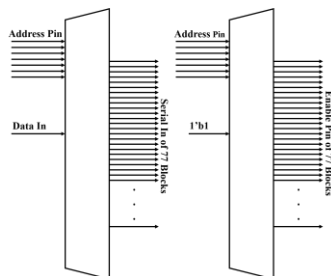

Fig. 5. Memory Controller Block
e. Memory Controller: This Memory Controller Block (Fig. 5) is very important to decide the direction of the bitstream while programming the FPGA. It actually contains two 1 to 128 DEMUX. The selector pin of these DEMUXs is the 7-bit address pin. One DEMUX is used for redirecting the bitstream and another one is for selecting where to write the bitstream. It also consists of a dedicated output flag to indicate that the programming is completed. The 7-bit address is generated using a address generator block. The address block changes the address whenever a write operation is completed for a selected block.